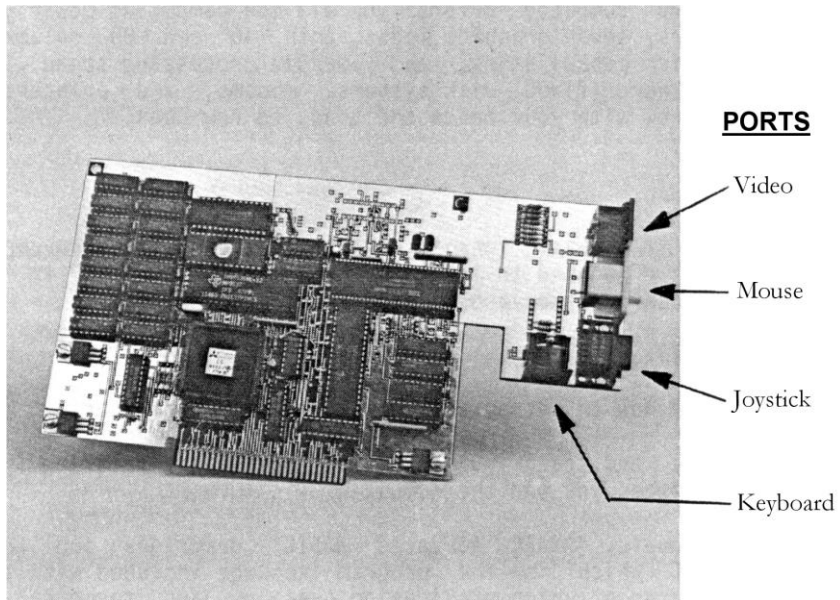

Figure 2 – The 9640 System Board (removed from clamshell case). Ports are at the rear of the board.
Figure 2 shows a top view of the 9640 System Board. Note the locations of the video, mouse, joystick, and keyboard ports at the back (to the right in the photo) of the computer board.
The composite video port (see Figure 2) allows you to connect a composite monitor, or television set with an RF modulator, to the 9640 computer.
The RGB (red, green, blue) analog video port (see Figure 2) allows you to connect a high resolution analog RGB color monitor to the 9640 computer. Monitors of this type will display both 40 and 80 columns of text and high resolution graphics with extreme clarity in full color.
Before inserting the MYARC 9640 Computer Card as in step 5 below, reset the pin located on the board directly in back of the combination video port, from GND to R (RED). See Figure 2, page 7. Also refer to "Connector Pinouts" (Appendix E).
8. Insert your keyboard, monitor, mouse, and joystick cables into the proper ports at the rear of the 9640 Computer Card. See Figure 2, page 7.